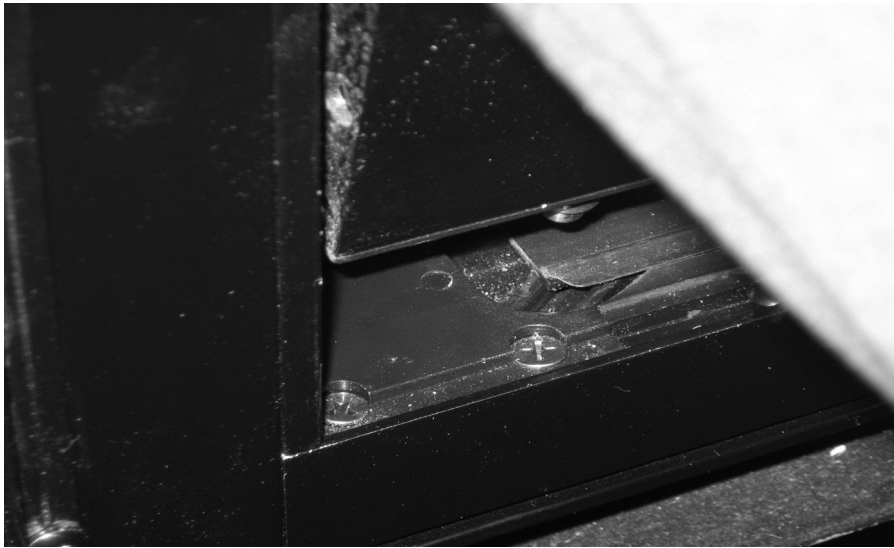

FIGURE 25: POSITIONING THE LOWER LEFT CORNER OF THE SASH
2. Position the left hand lower corner of the sash over the front cam follower block (Figure 25)